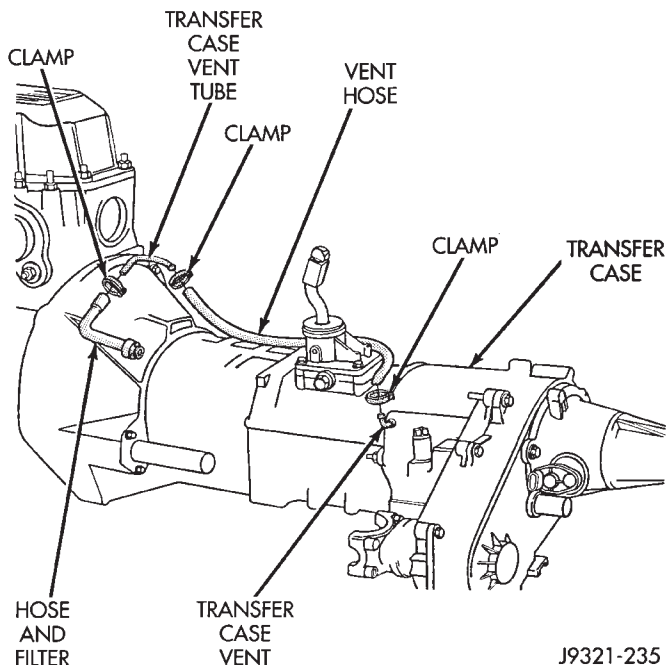

Fig. 7 Transfer Case Vent Hose Routing
- (6) Connect electrical wires to speed sensor.
- (7) Connect vent hose to transfer case vent (Fig. 7).
- (8) Align and connect propeller shafts. Tighten